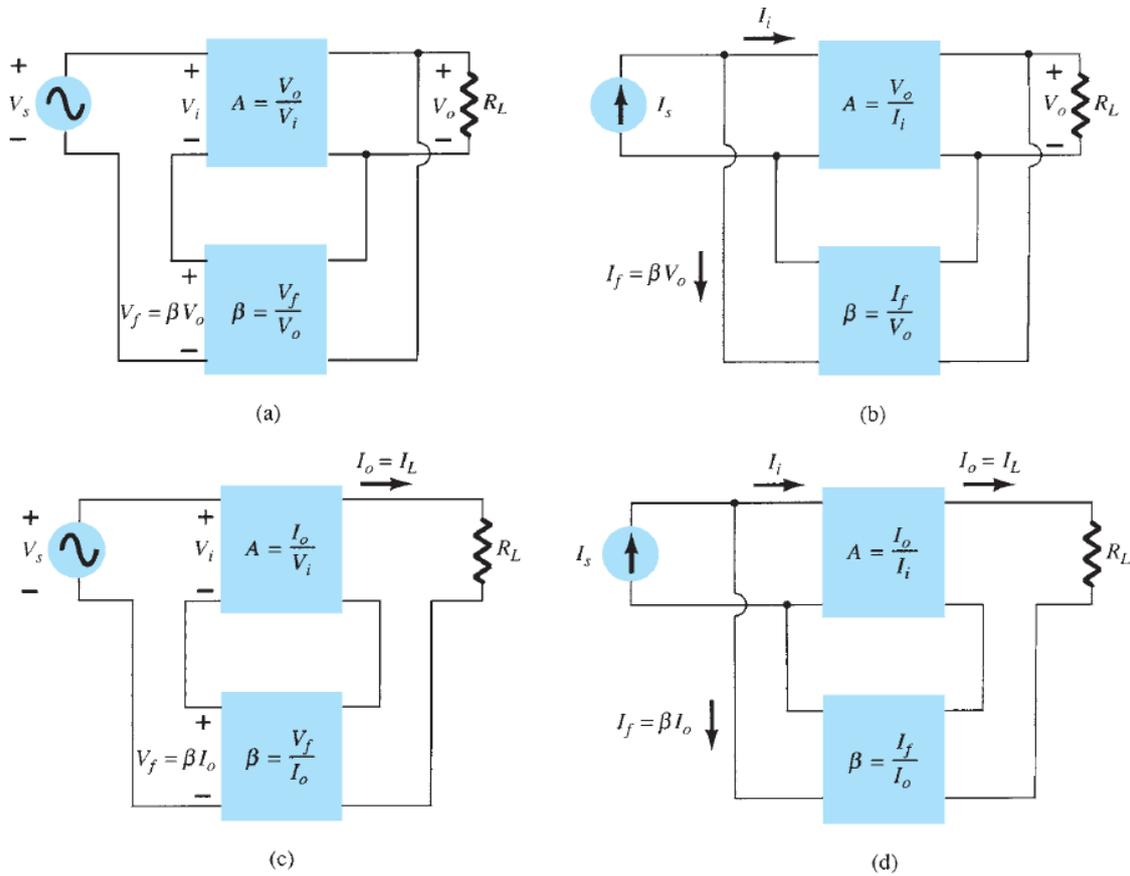

FIG. 2: Feedback amplifier types:
1. Voltage-series feedback (Fig. 2 a).
2. Voltage-shunt feedback (Fig. 2 b).
3. Current-series feedback (Fig. 2 c).
4. Current-shunt feedback (Fig. 2 d).
The gain without feedback, A , is that of the amplifier stage. With feedback β , the overall gain of the circuit is reduced by a factor $(1 + \beta A)$. A summary of the gain, feedback factor, and gain with feedback of Fig. 2 is provided for reference in Table 1.
TABLE 1 Summary of Gain, Feedback, and Gain with Feedback from Fig. 2
Figure 2-a shows the voltage-series feedback connection with a part of the output voltage fed back in series with the input signal, resulting in an overall gain reduction. If there is no feedback ($V_f = 0$), the voltage gain of the amplifier stage is:
The input impedance with series feedback is seen to be the value of the input impedance without feedback multiplied by the factor $(1+\beta A)$, and applies to both voltage-series (Fig. 2 a) and current-series (Fig. 2 c) configurations.
The output impedance for the connections of Fig. 2 is dependent on whether voltage or current feedback is used. For voltage feedback, the output impedance is decreased, whereas current feedback increases the output impedance.
The gain with feedback for the network of Fig. 2-b is
This reduced input impedance applies to the voltage-series connection of Fig. 2-a and the voltage-shunt connection of Fig. 2-b.